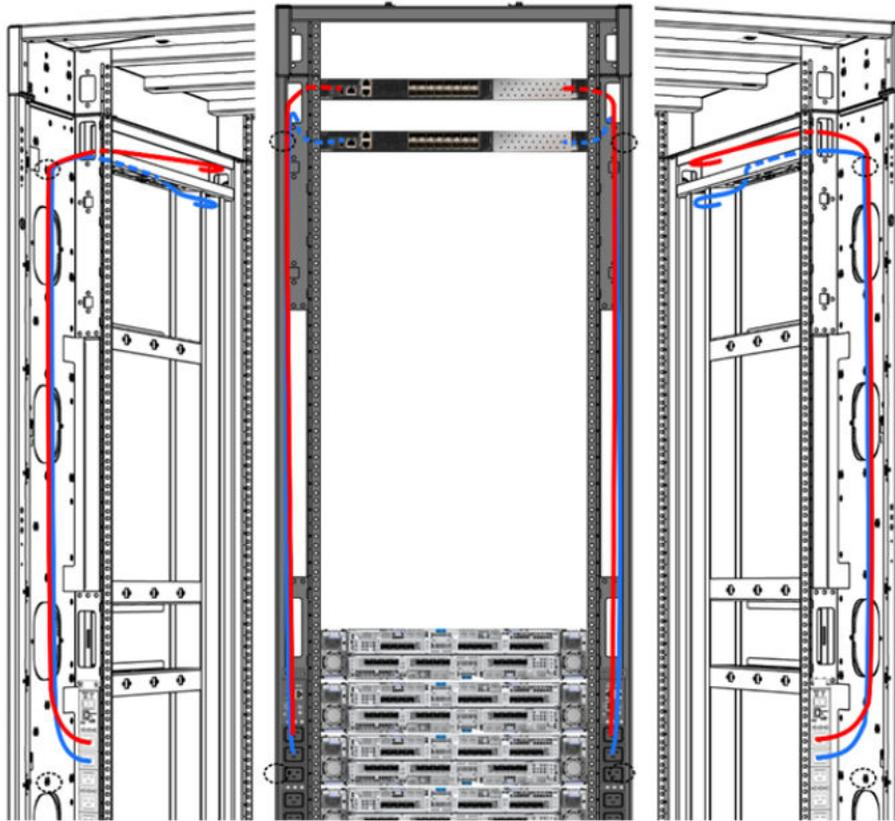

Figure 256. Power cable routes for SAN32C-6 switches (includes for optional second PSU)
1. At the rear of the rack, route a power cable from the upper outlet of the left PDU, up the rack, through the upper left cableway of the rack, to the front of the rack where the switches will be installed. If a second power supply is installed in the switch, also, route a second power cable from the upper outlet of the right PDU, through the upper right cableway of the rack, to the front of the rack where the switches will be installed. Figure 256 on page 339 shows suitable routes. Do not plug the connectors into the outlets yet.